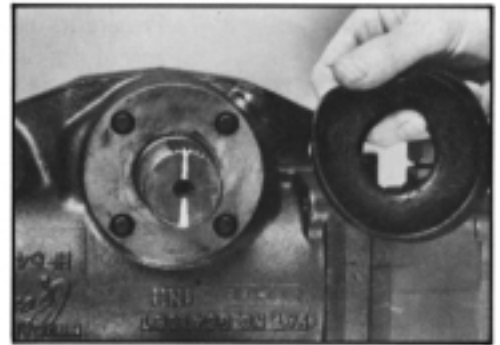

Figure 45
3. Remove protector seal (61) from trunnion cover (59). SEE FIGURE 45.